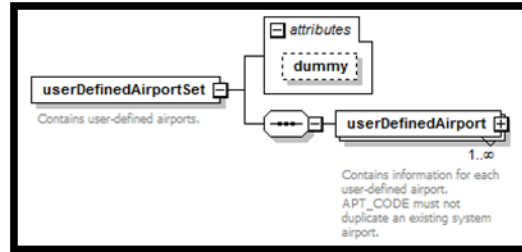

Figure 69. ASIF element – userDefinedAirportSet
10. **AsifXml/study/userDefinedAirportSet/userDefinedAirport** (Figure 69):